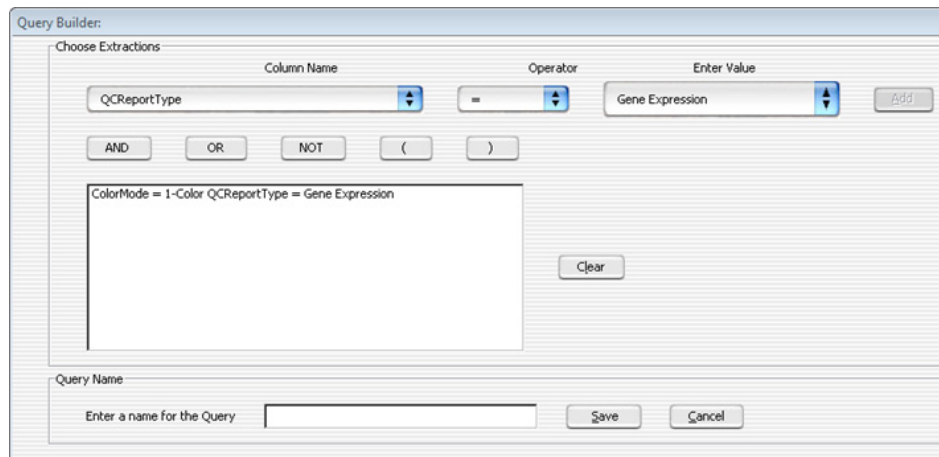

Figure 4 Query Builder showing a composite query.
- 5 In the **Query Name** area, enter a name for the query. See Figure 4 on page 20.
Figure 4 shows an example of a query that finds all 1-color gene expression extractions.